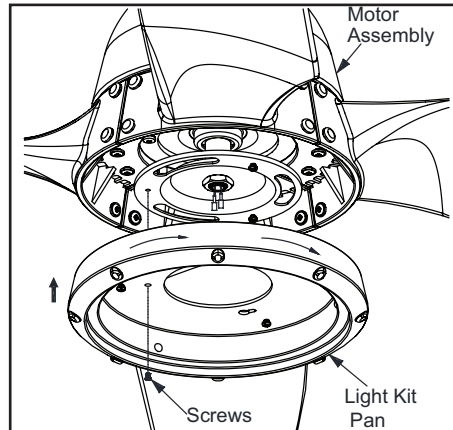

Figure 15
1. Loosen but do not remove two of three mounting screws from the fan motor assembly; Remove one mounting screw. (Figure 15)
2. Push the light kit pan up to the fan motor assembly so that the two loosened screw heads fit into the keyhole slots. Turn the light kit pan clockwise, tightened the screws. Re-install the screw that was removed in step 1 and tighten firmly. (Figure 15)